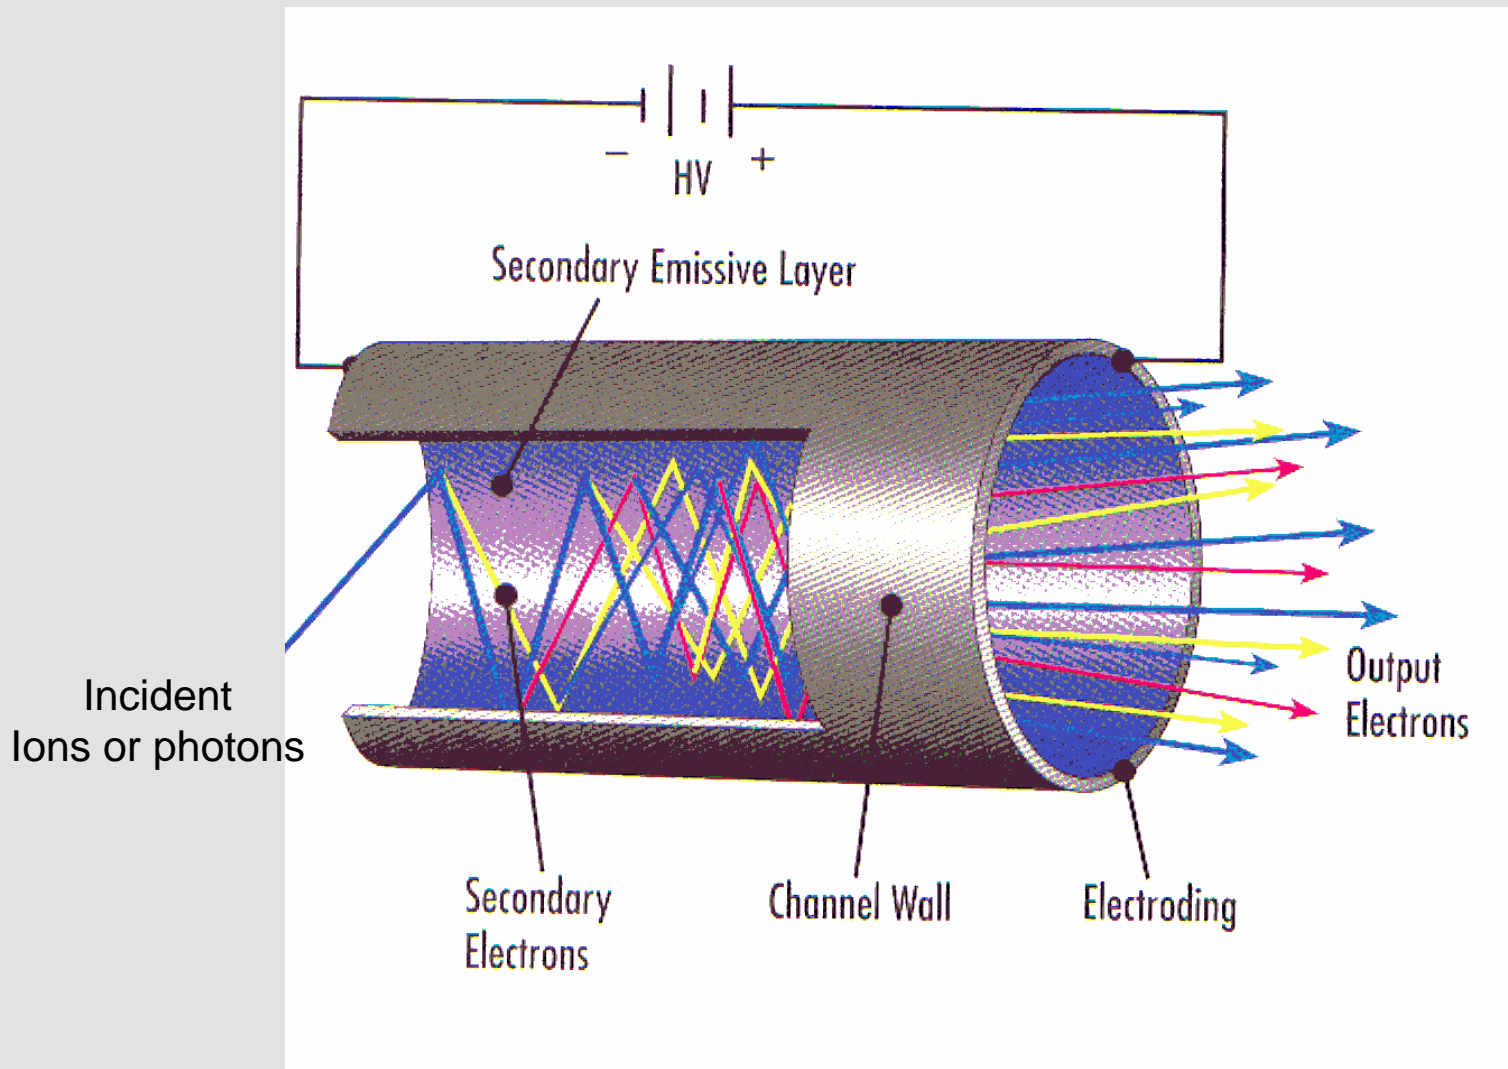

Figure 1
- Electron Multipliers produce very high gain and low noise signal amplification by a process of secondary electron emission. (Figure 1)